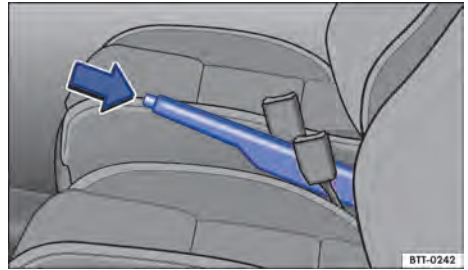

Fig. 98 Between front seats: handbrake lever.
- Press the interlock button and pull the handbrake lever upwards → Fig. 98 (arrow).
- Pull the handbrake lever slightly upwards and press the interlock button → Fig. 98 (arrow).